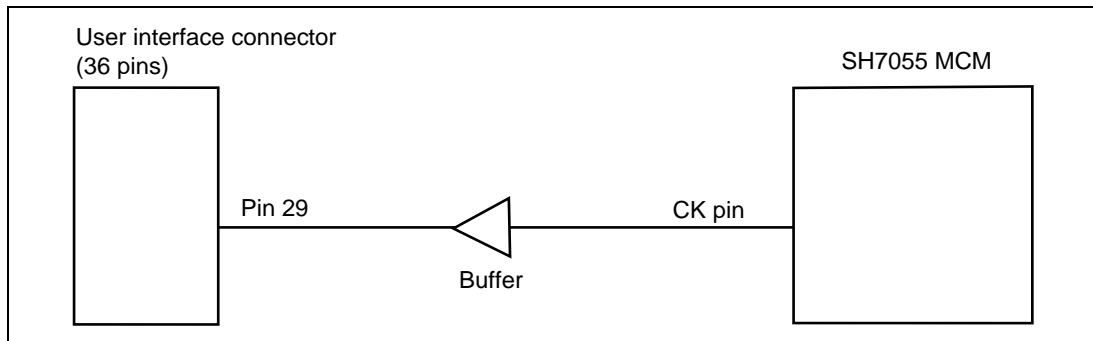

Figure 6.3 Circuit between User Interface Connector (36 Pins) and SH7055 MCM
3. The CK pin is used by the emulator. When the emulator is used, connect the CK pin between the user interface connector (36 pins) and the SH7055 MCM via the buffer as shown in figure 6.3. The buffer voltage should be Vcc.